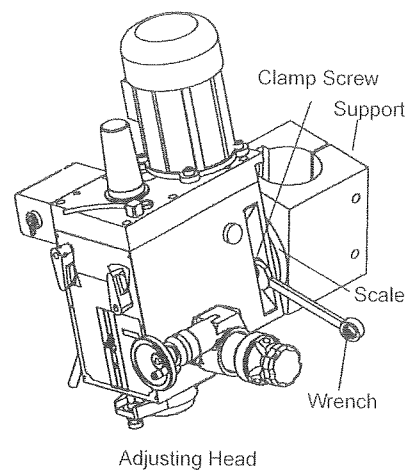

Fig.5
(3)、 The rotating of the head.(see the fig5.)